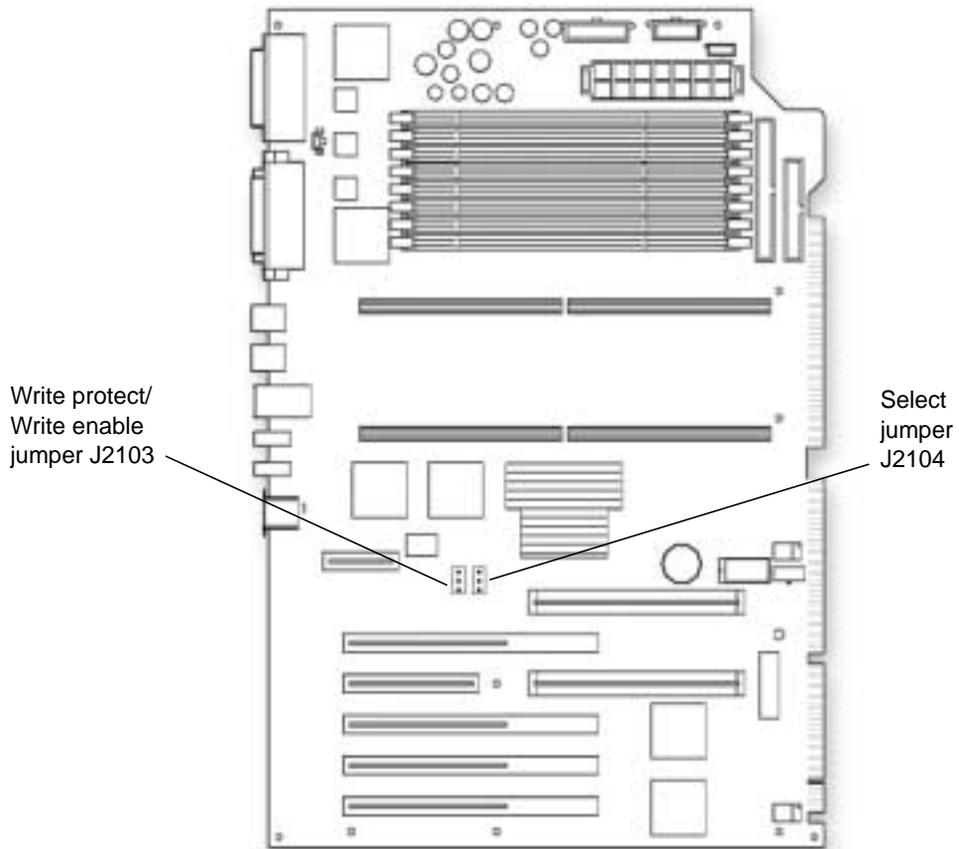

FIGURE 1-10 Sun Blade 1000/Sun Fire 280R/Sun Netra T4 Flash PROM Location on Motherboard
- For a Sun Blade 1000 system, see FIGURE 1-10 on page 1-9.
- For a Sun Fire 280R system, see FIGURE 1-10 on page 1-9.
- For a Sun Netra T4 system, see FIGURE 1-10 on page 1-9.